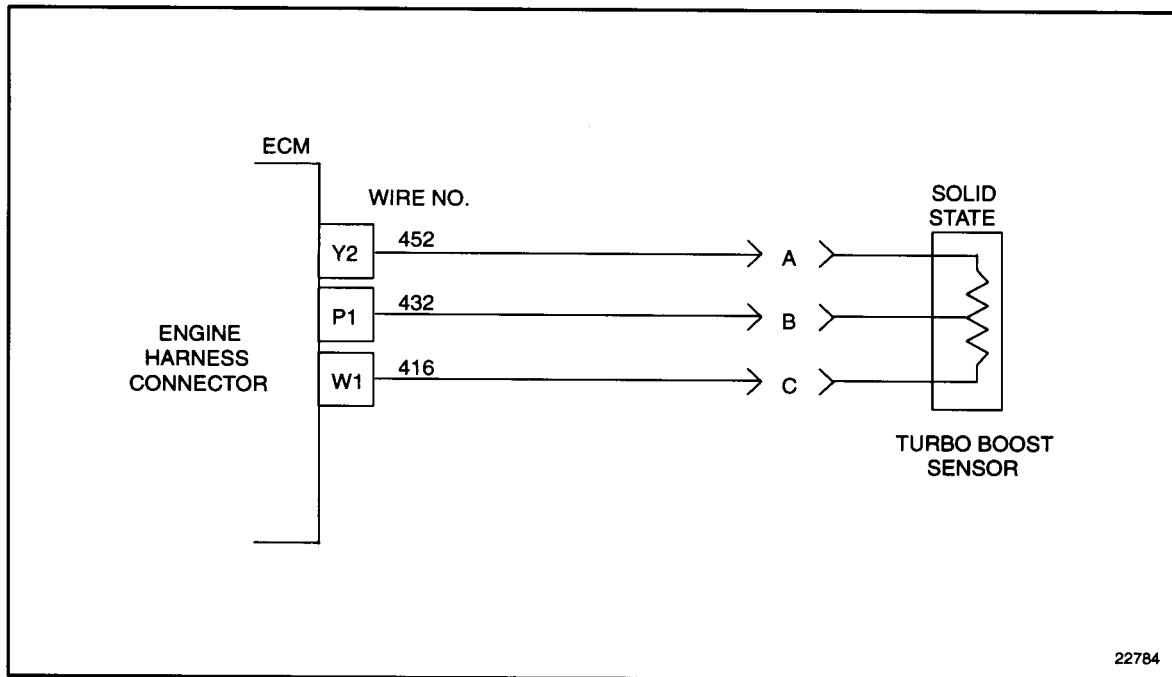

Figure 34-6 Turbo Boost Sensor Schematic
2. Measure resistance between pins A and C on the TBS harness connector. See Figure 34-6.